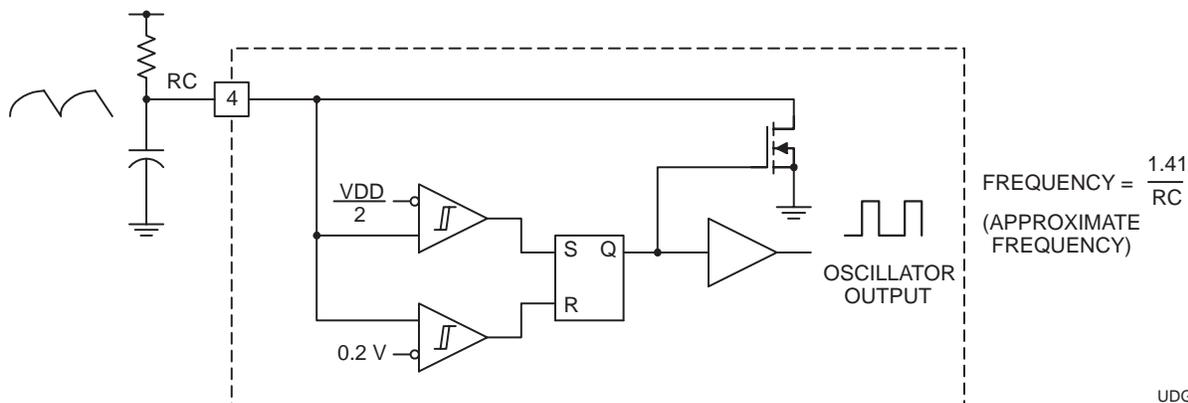

Figure 1. Block Diagram for Oscillator
**RC:** The oscillator programming pin. The UCC2808A's oscillator tracks VDD and GND internally, so that variations in power supply rails minimally affect frequency stability. Figure 1 shows the oscillator block diagram.